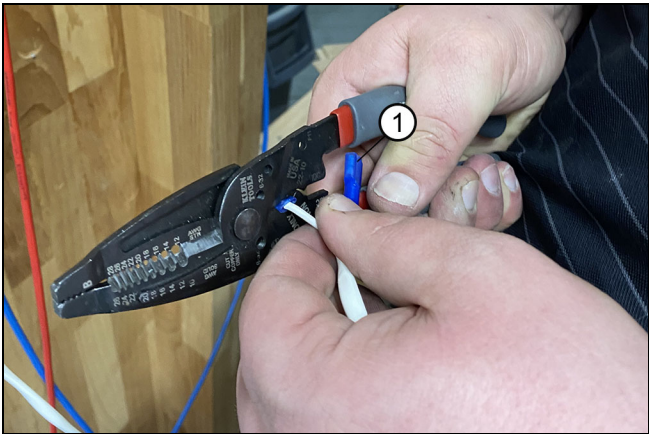

Figure 16
1. Attach the blue female cable crimp connectors to the 14-2 cable from the control box. See Figure 16.